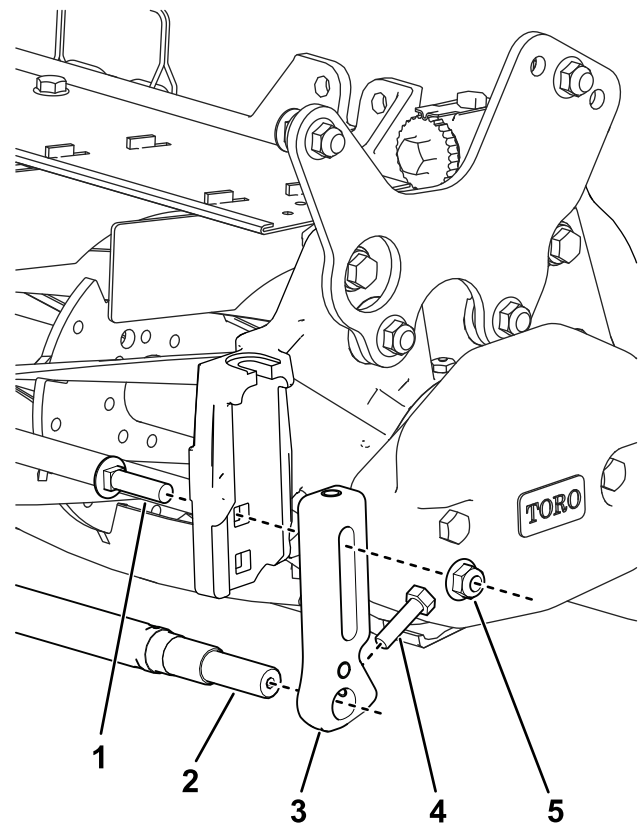

Figure 39
2. Using the carriage bolts and locknuts, install front HoC brackets to the top hole of the side plate (Figure 39).